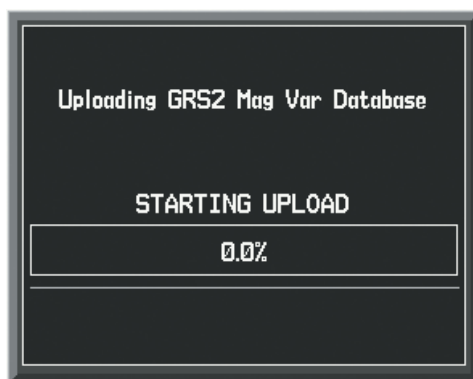

Figure B-15 Uploading Database to GRS2
- 4) With 'OK' highlighted, press the **ENT** Key on the MFD. A progress monitor is displayed as shown in Figure B-15. When the upload is complete, the system is ready for use.